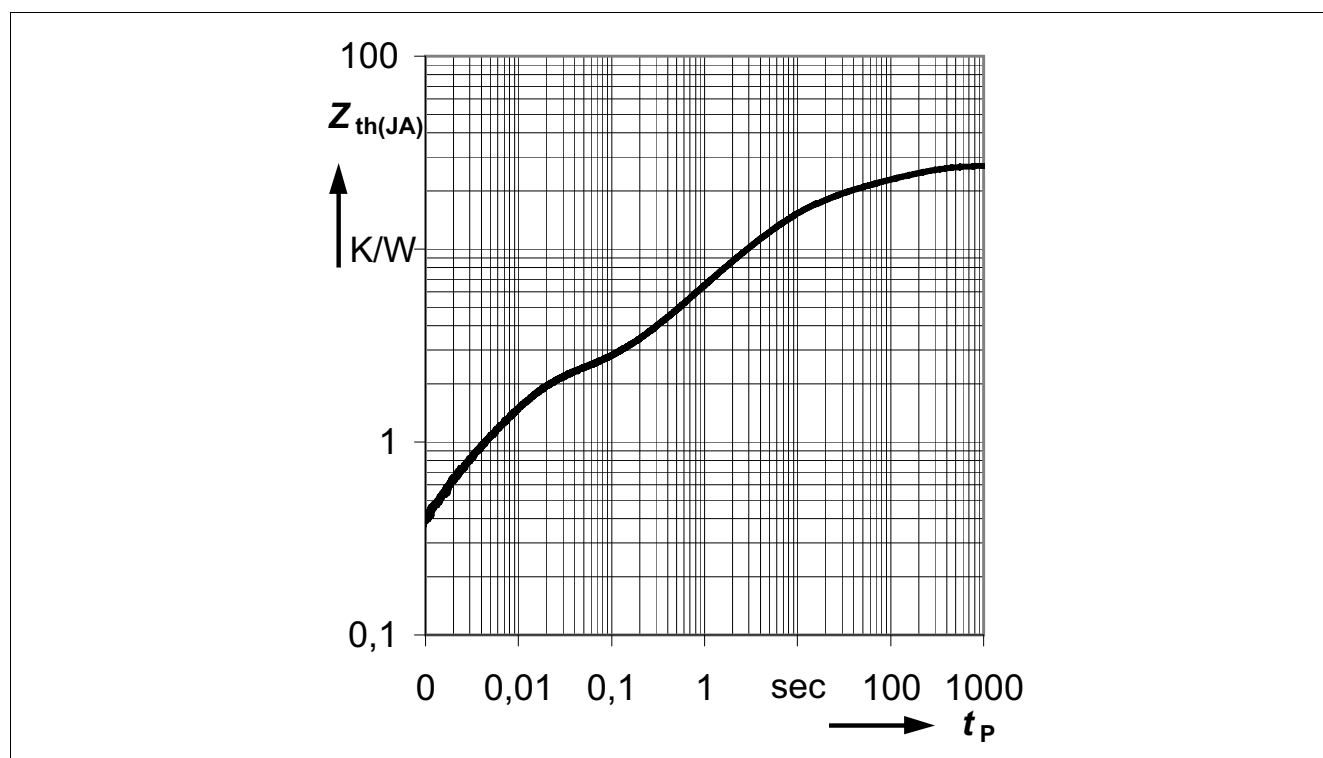

Figure 4 Transient Thermal Impedance $Z_{th(JA)} = f(t_p)$ ⁴⁾
4) Specified R_{thja} value and Figure 4 are according Jedec JESD51_7 at natural convection on FR4 2s2p board. The BTS50080-1EGA was measured on a 76.2 x 114.3 x 1.6 mm board with 2 inner copper layers (2 x 70µm Cu, 2 x 35µm Cu) applying power losses of 1.4W at the channel. According to JESD51-5 a thermal via array under the exposed pad contacted the first inner copper layer. $T_a = 25\text{ °C}$.
Figure 4 shows the typical transient thermal impedance of BTS50080-1EGA.